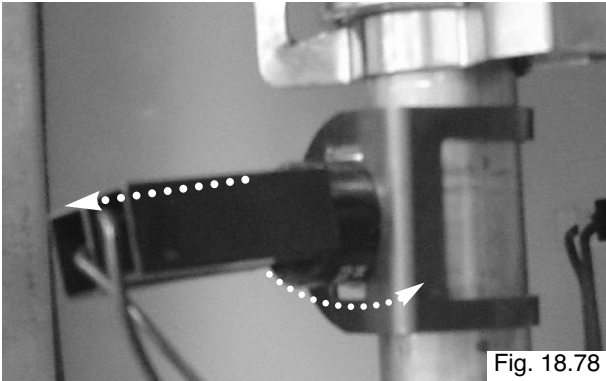

Fig. 18.78
2. Pull off the thermostat connections. Then remove the thermostat from the pipe by releasing it's securing clip (see Fig. 18.78);